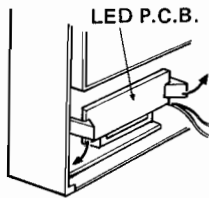

Fig. 9
4. Input switch LED P.C.B. and EQ switch LED P.C.B. are fitted to the front panel. Release the claws as in Fig. 9 to remove the P.C.B. from the front panel.